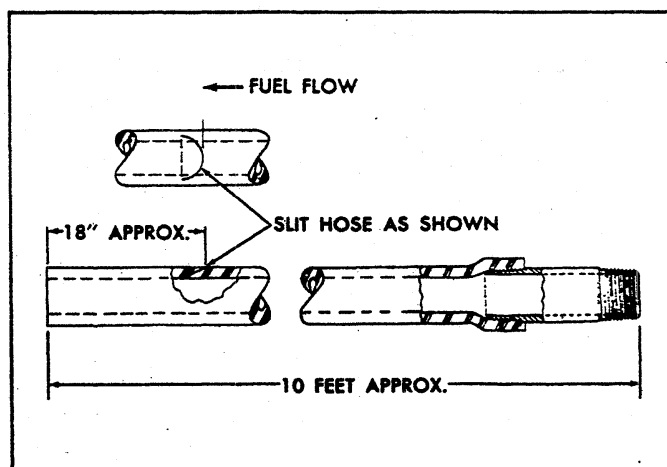

Fig. 2—Siphon Construction
1. Obtain approximately 10 feet of 3/8" I.D. hose and cut a flat-type slit 18" from one end. Make this cut on the hose in the direction toward the shorter end (See Figure 2).